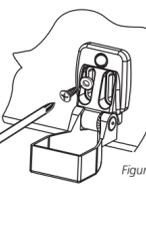

Figure 9
- Assure that the transducer location has not changed, then carefully hand tighten the two screws. (Figure 9).
- After the final testing and adjustments have been completed refer to Figure 9. Using a 3/32"(4mm) bit, drill a third hole at the top of the bracket and hand install the third mounting screw.